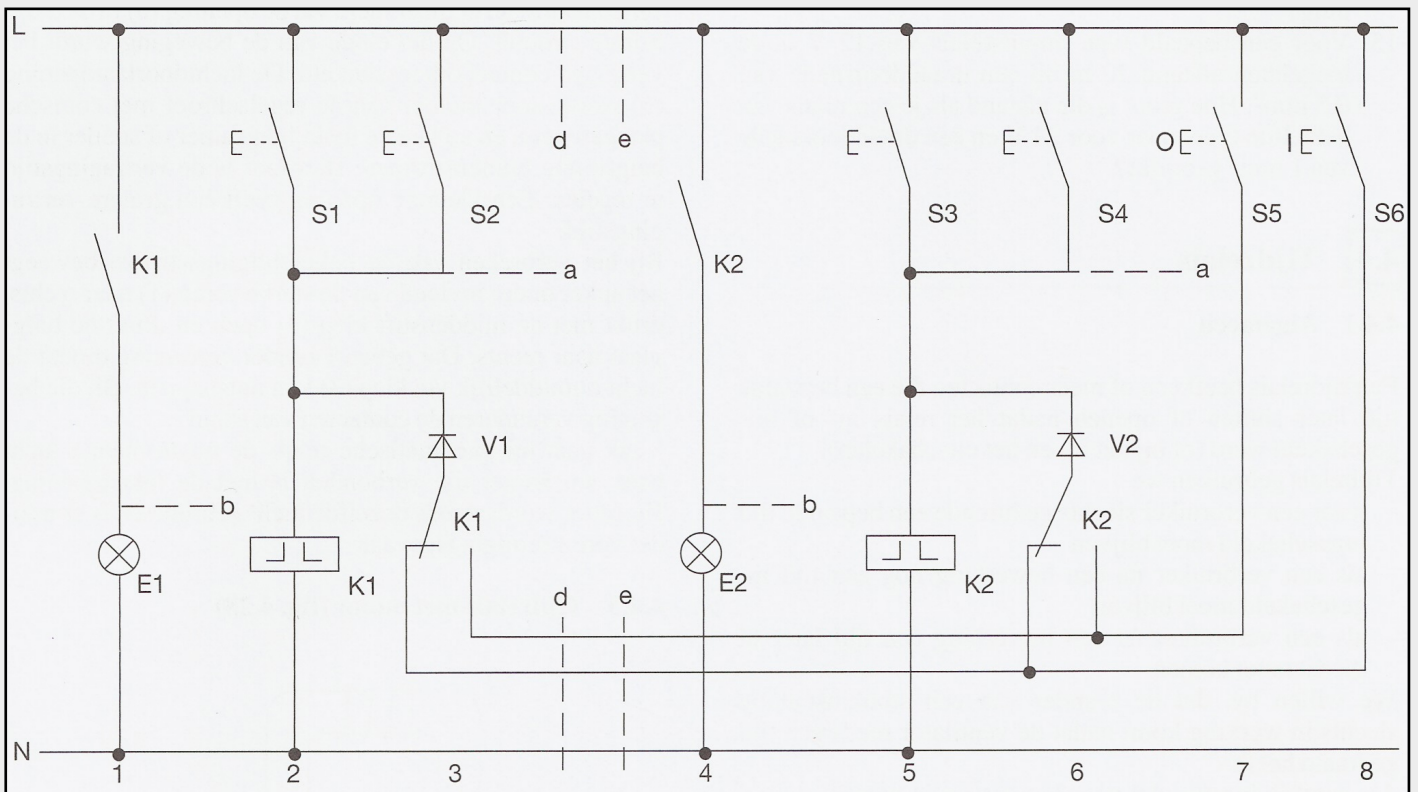

Fig 2.9
**c) Met centrale bediening (Fig 2.9)**